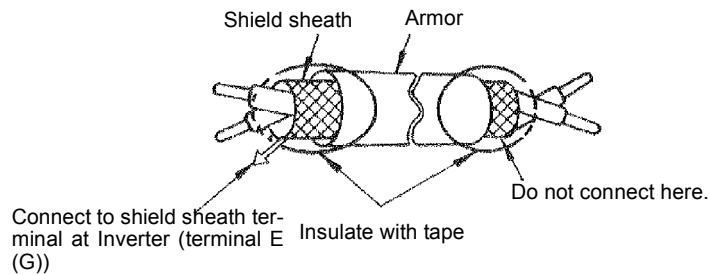

Fig 2.22 Processing the Ends of Twisted-pair Cables
- Use twisted-pair or shielded twisted-pair cables for control circuits to prevent operating faults. Process cable ends as shown in *Fig 2.22*.
- Connect the shield wire to terminal E (G).